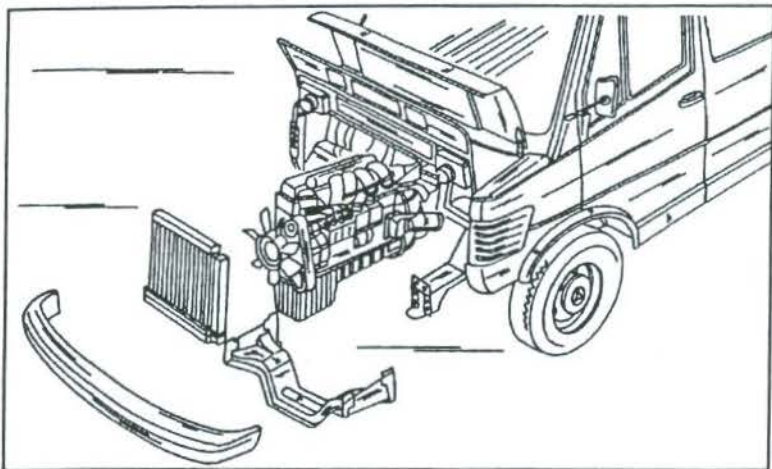

Fig. 1.1 – The engine is removed from the vehicle after the illustrated parts have been removed from the front end of the vehicle.
The engine and transmission is removed from the vehicle as a complete unit after the parts shown in Fig. 1.1 are removed from the front end of the vehicle. The transmission can then be removed from the engine. Engine and transmission are a heavy unit and a suitable hoist or crane is required to lift out the assembly, remembering that the weight is more than 200 lbs. The following description is a general guide line, as we cannot refer to every possible variation and/or equipment that may be fitted to your vehicle.
- Remove the front bumper and the radiator crossmember (Fig. 1.1).